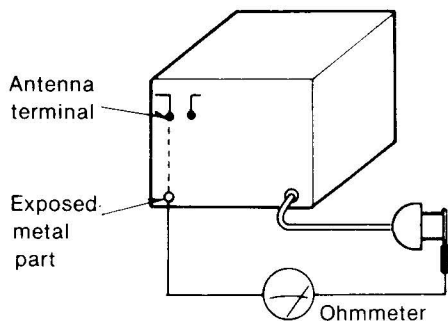

Fig. 1
3. Measure the resistance value with ohmmeter between the jumpered AC plug and each exposed metal cabinet part, such as screwheads, antenna, control shafts, handle brackets, etc. Equipment with antenna terminals should read between $3\text{M}\Omega$ and $5.2\text{M}\Omega$ to all exposed parts*. (Fig. 1) Equipment without antenna terminals should read approximately infinity to all exposed parts. (Fig. 2)